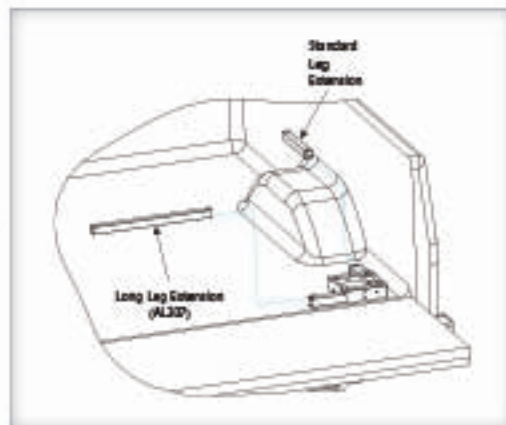

Figure 23-2
- 2. Install leg extensions** into base tubes and extend them as far as they will go. The Long Leg Extension should run parallel with the bumper. Set screws can be hand-tightened at this time. [Figure 23-2]